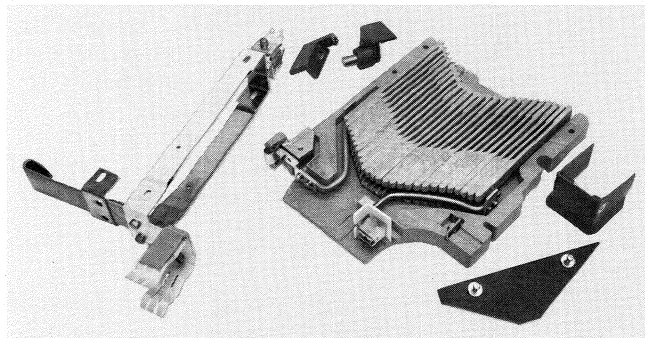

Fig. 28. Components of an arc-chute assembly
4. Open chute and replace parts as required. See Fig. 28.